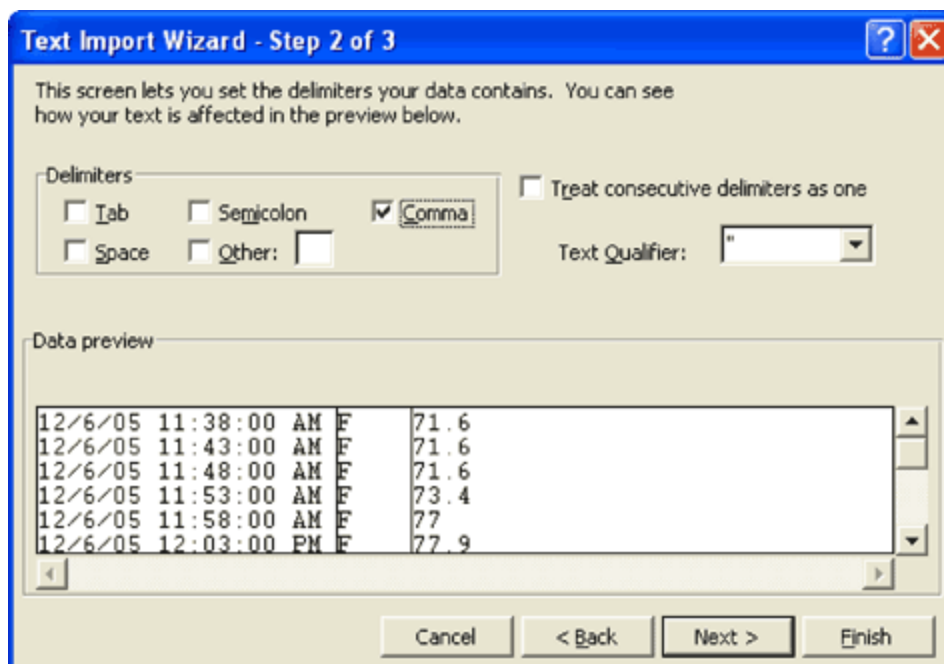

Figure 5. For the data to flow into Excel smoothly, it is important that you mark the file delimiters correctly, using either a comma or a semicolon.
16. In the Delimiters window that appears, be sure that only the "Comma" or "Semicolon" box is checked (Figure 5). Then select the "Next" button.